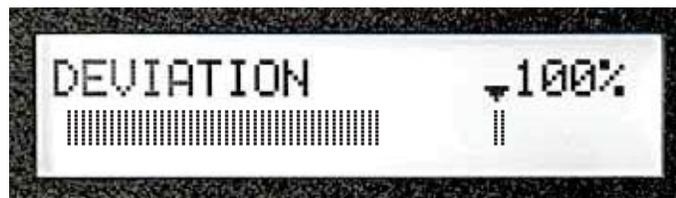

Figure 3-13. Press the FUNCTION Key to read deviation
- A final pressing of the FUNCTION key will produce a screen showing deviation (see Figure 3-13).